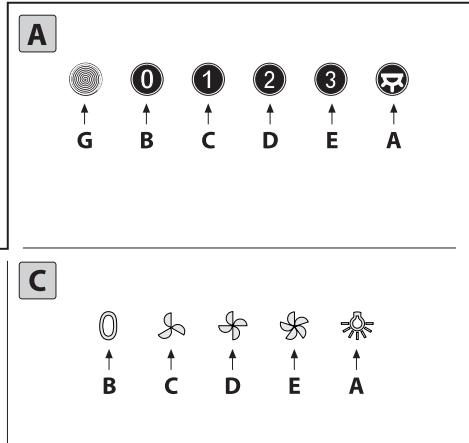

Fig.10
- **Commands slider (Fig.10)** the key symbols are explained below: